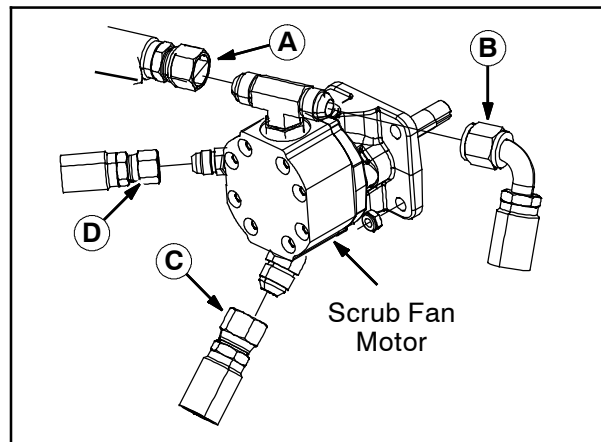

FIG. 9
- Disconnect the four hydraulic hoses (A), (B), (C), and (D) from the fittings on the scrub fan motor. (Fig. 9)